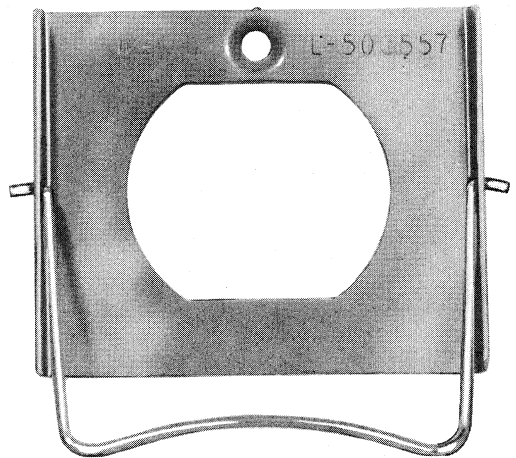

Fig. 13—Clamp for Mounting Early Version KS-20426L3 (MD) Transformer Not Equipped With Molded Mounting Tab
5.02 The transformer is self-protecting with an automatic thermo switch and is provided with primary terminals in the form of parallel blades which serve as the mounting device. If furnished, the clamp (Fig. 13) must be used to hold the transformer securely in the receptacle.
**Danger: For safety, securely attach retaining clamp to ac outlet using outlet cover screw BEFORE attempting to install transformer. See Fig. 13. When removing transformer, always unplug the power unit completely from the outlet BEFORE attempting to**